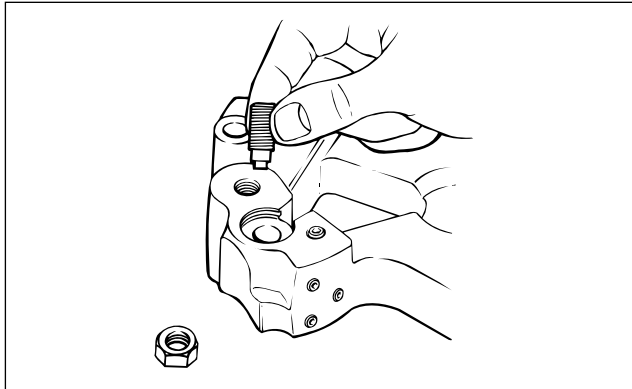

FIG. 26
1. Loosen the slave piston adjusting screw locknut and remove the adjusting screw from housing (see Fig. 26).